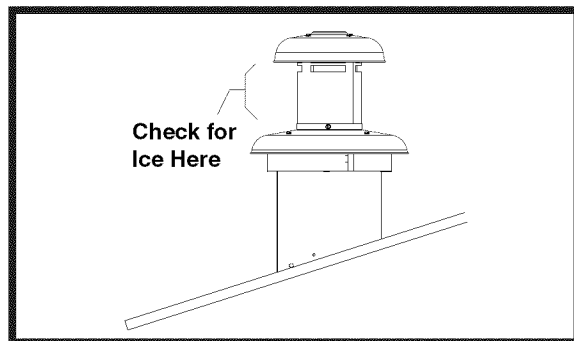

Figure 39. Roof Jack
- During extremely cold weather, ice may form on the furnace roof jack (Figure 39). Small amounts of ice forming on the roof jack will present no problems to proper furnace operation. Excessive ice formation could restrict the combustion air supply to the burner, causing inefficient burner operation. If excessive ice has formed on the air inlet or exhaust portions of the roof jack, it must be carefully removed.